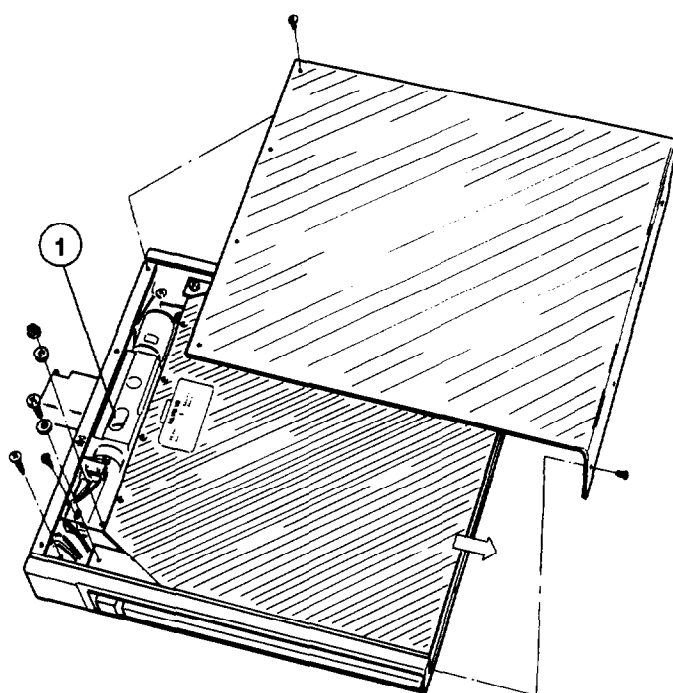

Fig. 3
- Remove the patient tabletop from the grid table and lightly grease the grid spindle (1/Fig. 3).